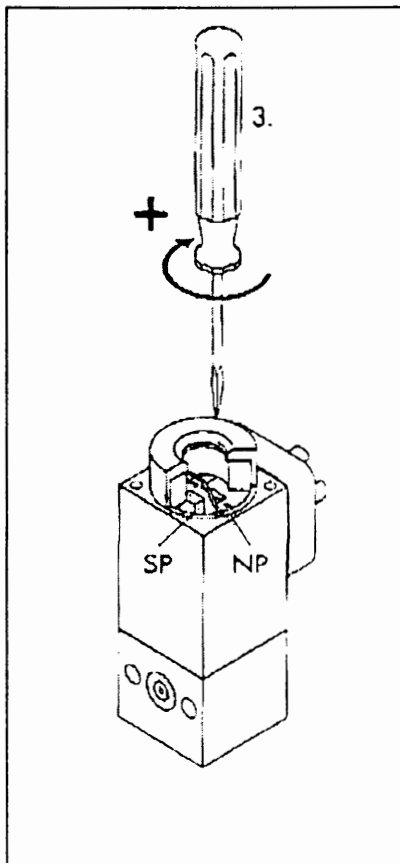

Fig 4. Adjustment of zero and span
- 2) Adjust the "span" screw, see **Fig 4**, to change the value of the electrical signal according to the pressure measurement area.